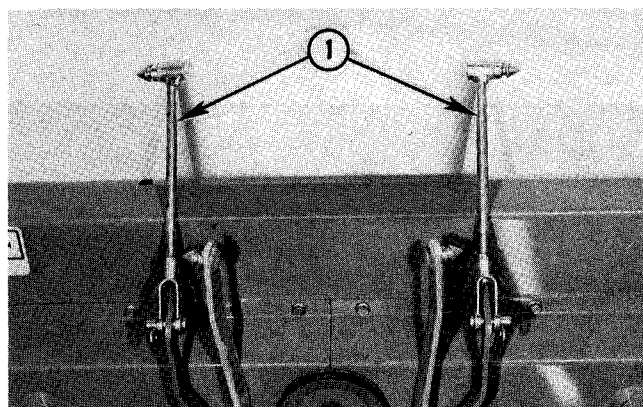

Fig. 41 — Front Lift Link Installation
3. Install front lift links on mower as shown in Figure 41.